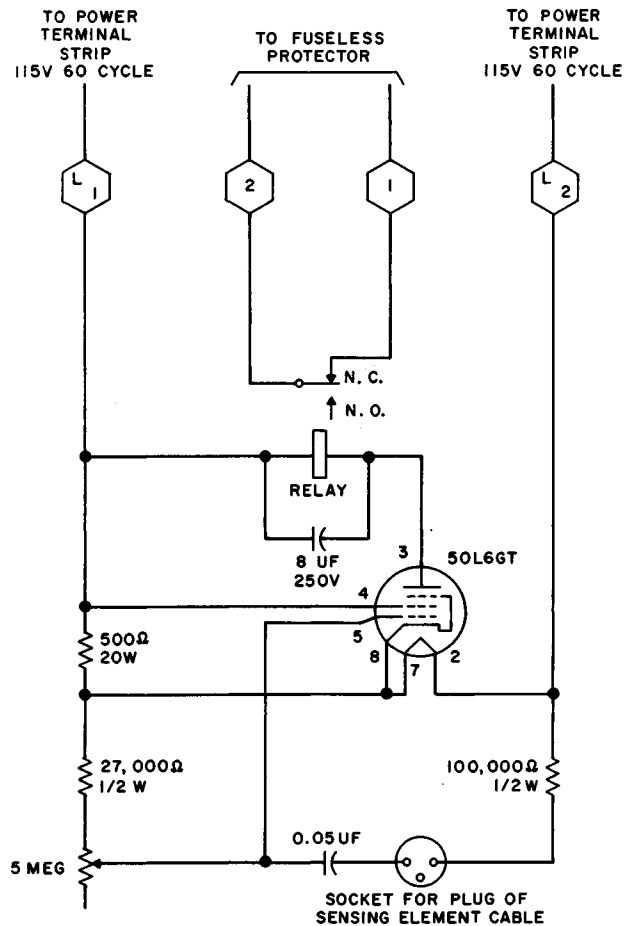

Fig. 12—Schematic of Humidity Alarm Relay Assembly
4.22 The humidity alarm (Fig. 12), designed to operate if the relative humidity of the air passing through the manifold exceeds 10 percent at 70°F, shall be checked at 3-month intervals. After removing the alarm circuit plug from the alarm receptacle in the cabinet, check as follows:
- (1) The alarm is set to the proper control point by adjusting the slotted shaft of the adjustable resistor (Fig. 12) inside the alarm housing. On L1 Dryers with serial numbers 951 and up and on all L2 Dryers, the resistor shaft is locked in the control point position by the manufacturer by means of a threaded sleeve on the shaft. On earlier dryers the locking sleeve was not provided and the shaft is positioned as follows: